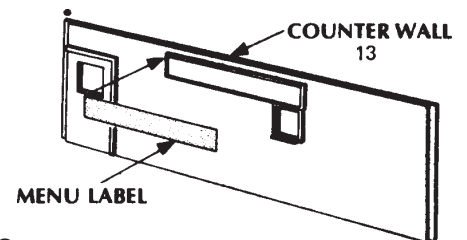

fig. 3
3. Peel off and stick the MENU LABEL to the COUNTER WALL (13). (Fig. 3)